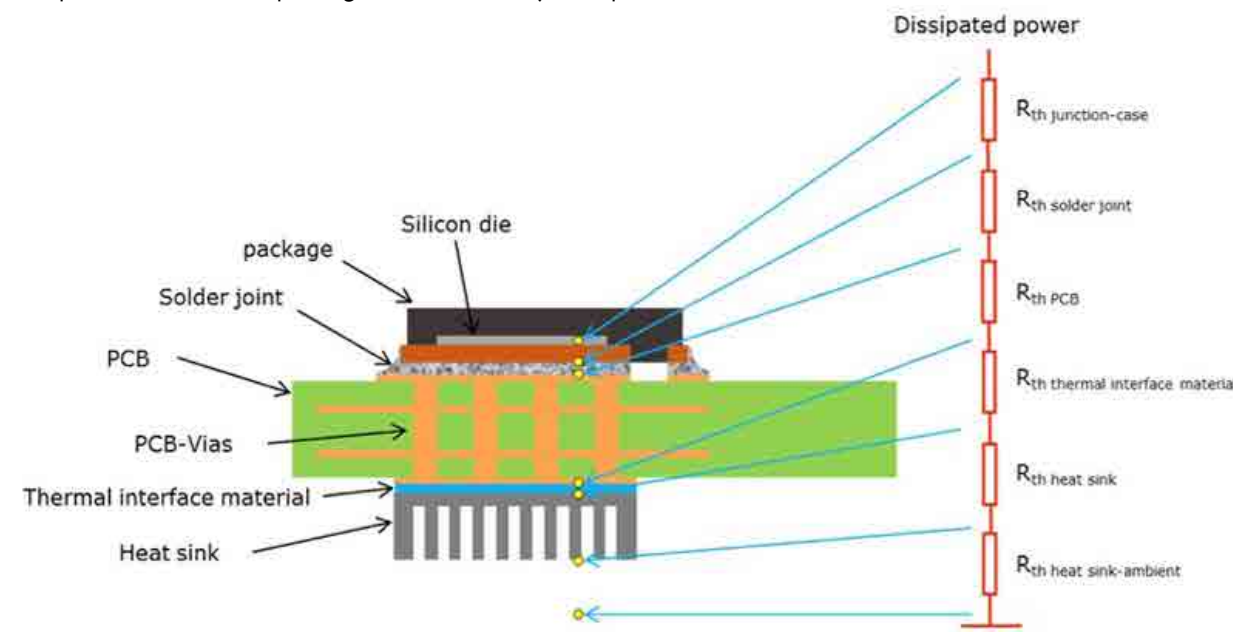

Figure 3: Thermal model of a leadless package soldered to a PCB
**Figure 3** shows a model of the thermal path from the junction to an ambient atmosphere, for a surface-mount package. The thermal resistance of every step contributes to the overall thermal resistance ( $R_{thja}$ , measured in Kelvin per Watt, or K/W) from junction to ambient. To achieve the best performance, low thermal resistance is desirable.